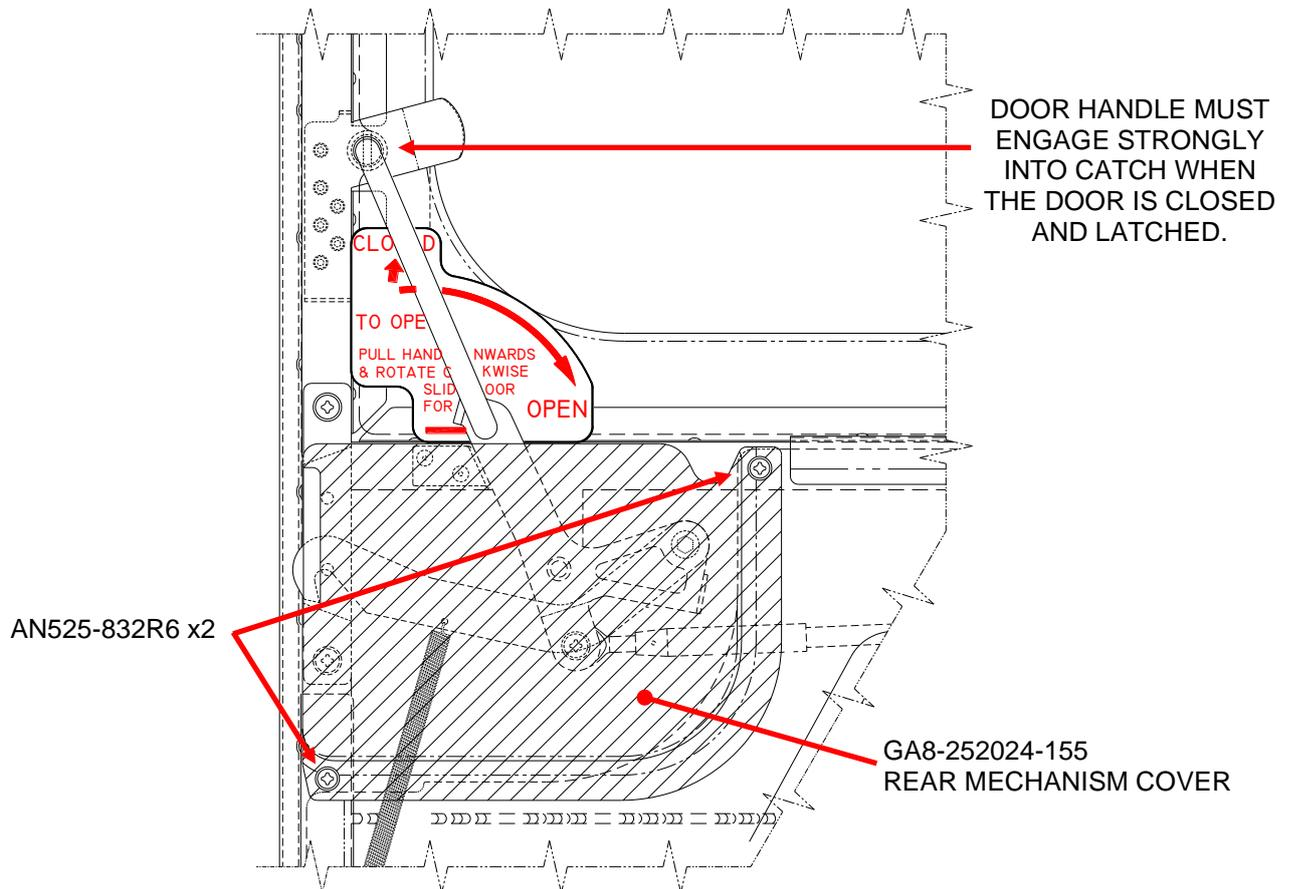

Figure 7: Rear Mechanism Cover (latch in closed position).
1. Remove the Rear Mechanism Cover by removing the screws marked in Figure 7.
5. Check that the door handle engages strongly with the catch when in the closed position (Figure 7). Weak engagement may be caused by wear to the handle bush or by damage (bending) of the handle and must be corrected by replacing the pivot bush (with Item 11 from Table 5) or the handle (Item 10 from Table 5) as appropriate.
6. After finishing inspection and required actions, reinstall the Rear Mechanism Cover as shown in Figure 7.
5. After finishing inspection and required actions, reinstall the Rear Mechanism Cover as shown in Figure 7.
12. After finishing inspection and required actions, reinstall the Rear Mechanism Cover as shown in Figure 7.
1. Remove Rear Mechanism Cover, refer to Figure 7.
6. Reinstall the Rear Mechanism Cover, refer to Figure 7.